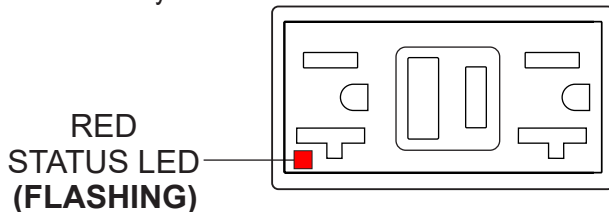

Figure 79. GFCI Receptacle (Red Flashing LED)
6. If the status LED (Figure 79) is **flashing (RED)**, **DO NOT** use the GFCI receptacle. Replace it immediately.